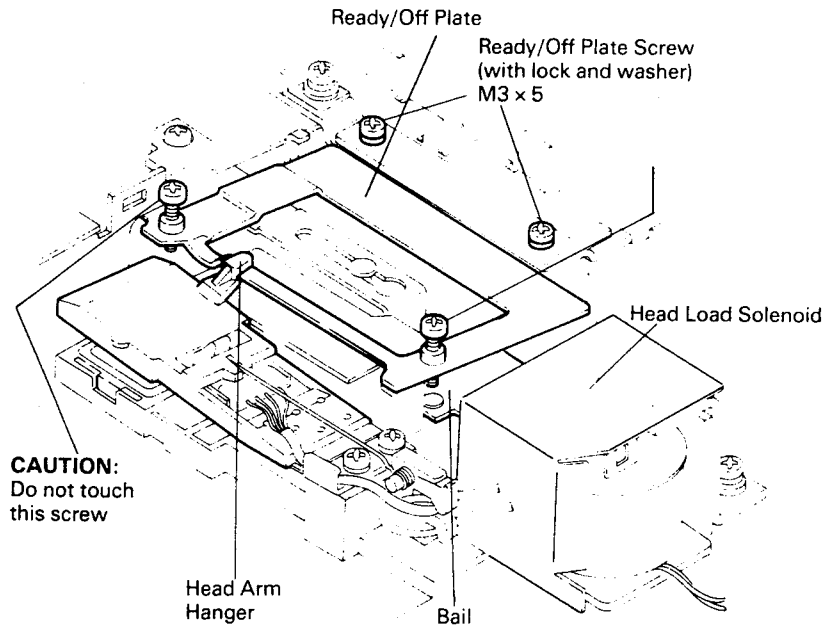

Fig. 4.10.1
- 2) Make sure that the Ready/Off plate is below the head arm hanger when reattaching the carrier assembly. (See Fig. 4.10.1.)
3. Take out the Ready/Off plate screws and remove the Ready/Off plate. (See Fig. 4.10.1)